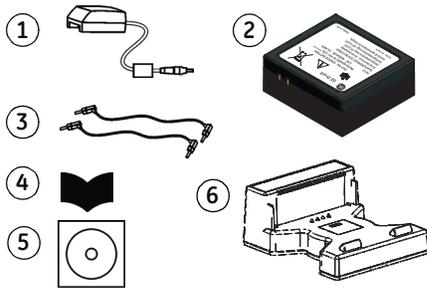

Figure 1-7: Accessories included
- Make sure that there is no damage to the instrument, and that there are no parts missing; see Figure 1-7.